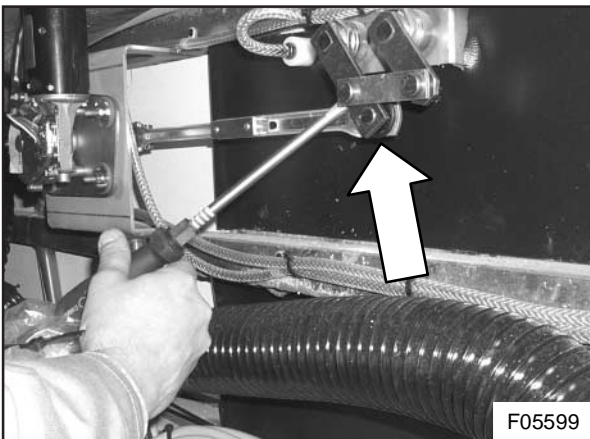

Figure 4 : RH wiper tie bar outer knuckle
- 5) With a large screwdriver, separate the right-hand wiper tie bar from the outer knuckle joint (see Figure 4). Make sure to recover the dust cap. Take note of its installation.